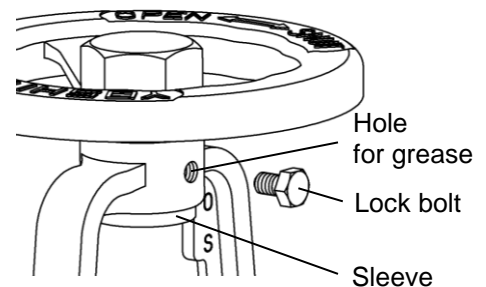

Figure 3
(5) Tighten the lock bolt if it is necessary to fix the handle (See Figure 3).
(6) When applying grease to the sleeve, remove the lock bolt and put grease into screw hole (See Figure 3).